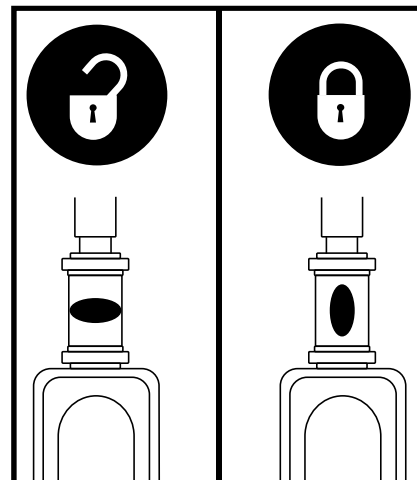

Figure 18. Tiller Lock Knob
1. Remove the key from the key switch and then lock the tiller in the straight ahead position by pushing the tiller lock knob in and turning it clockwise 90°. See **figure 18**. The front wheel must face forward in order to lock the tiller.
6. Unlock the tiller by turning the tiller lock knob 90° counterclockwise. See **figure 18**.